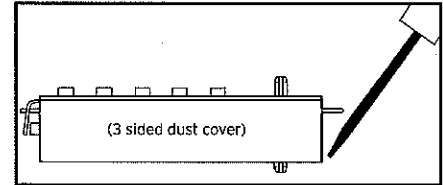

Fig. 1
- 1 Place a small screwdriver on the edge of the 3-sided dust cover and push down on the screwdriver (See Figure 1). The cover should pop loose. Once it does, pull the cover off of the combination chamber.